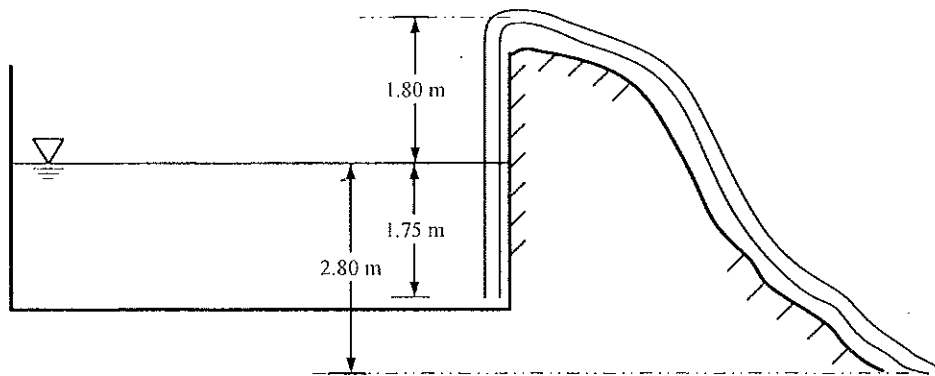

Figure Q1
- (c) A tank in a fish farm is emptied using a siphon as shown in Figure Q1. The siphon has a uniform circular pipe of 125 mm diameter and consists of a bent pipe with its crest 1.8 m above water level discharging into the atmosphere at a level 2.8 m below water level. The total loss of head due to friction is $1.08(v^2/2g)$, where v is the velocity of flow. If the total length of the siphon is 9.0 m,